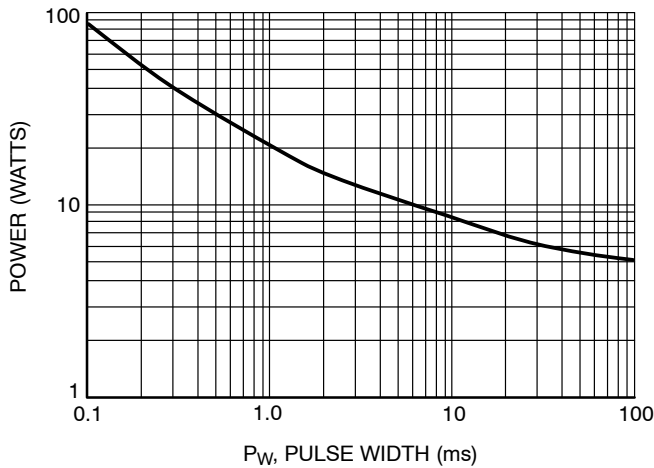

Figure 12. Maximum Non-repetitive Surge Power vs. Pulse Width
- For different square pulse durations, see Figure 12.